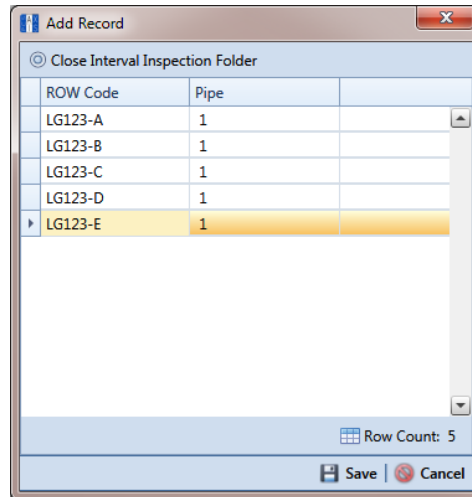

Figure 6-5. Add Record
- 5 Click the **+** **Add** button to open the *Add Record* dialog box (Figure 6-5, page 187).